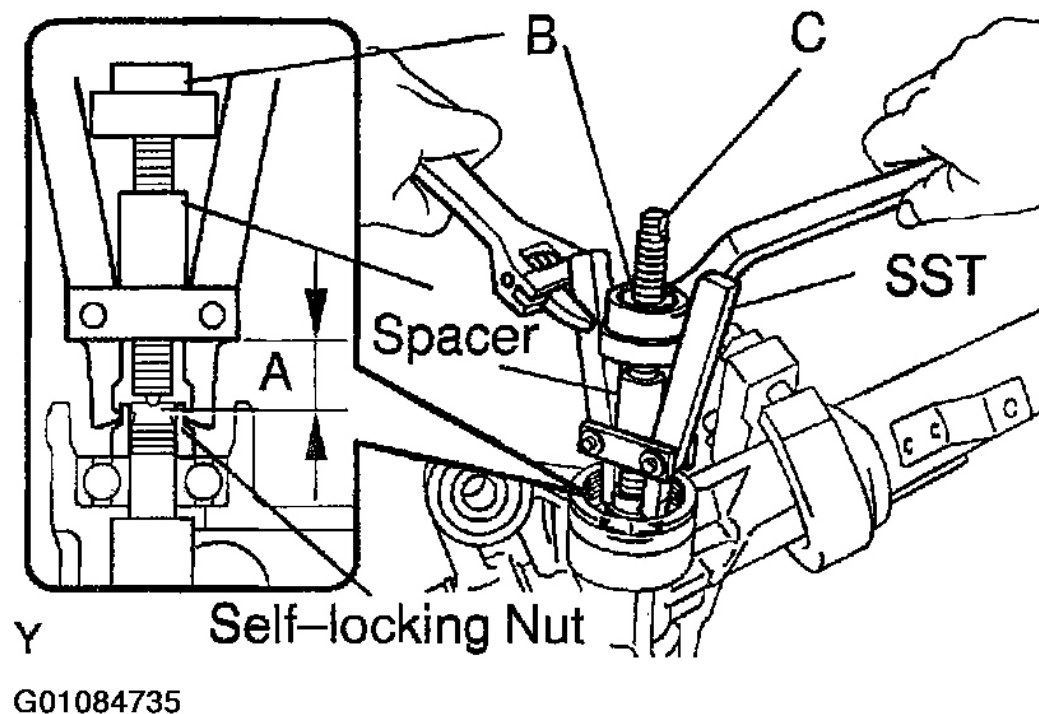

Fig. 80: Locating A, B & C
- b. Turn "C" of SST to measure the dimension "A," then set SST as shown in **Fig. 80** .